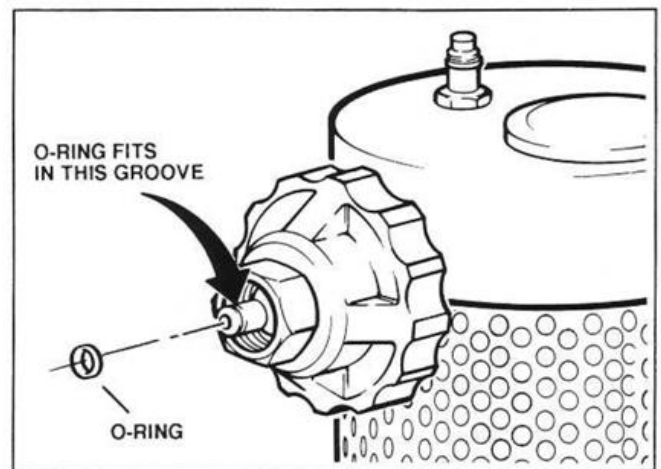

Figure 12. O-Ring Placement.
- Remove the cap from the outlet of a fresh cylinder of nitrous oxide. Inspect the female connector on the mixer to assure that the O-ring (Figure 12) is in place. Attach the cylinder to the mixer assembly by turning the hand-wheel clockwise until "hand-tight."
- Check the connection by opening the valve slightly and listening for leakage. If hissing is heard, close the valve and remove the cylinder as described in step 4. Recheck to ensure that the O-ring shown in Figure 12 is present and in good condition. Reassemble and check the connection once more to make sure there is no leak. If the connection is not leaking, close the valve. **Do not store the unit with the valve open.**